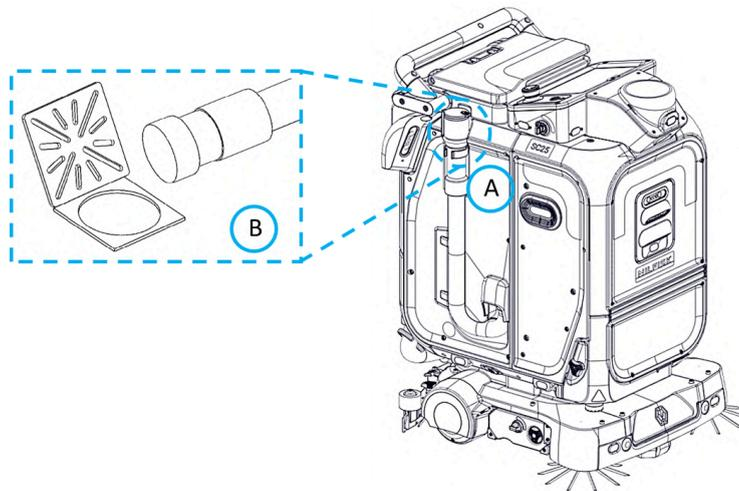

FIGURE 10-2
1. Unmount the Manual Drain Hose (14) from the holding hooks provided (Fig. 10-2 (A)).
2. Point hose towards a drain or appointed disposal location and uncap the hose (Fig. 10-2 (B)).